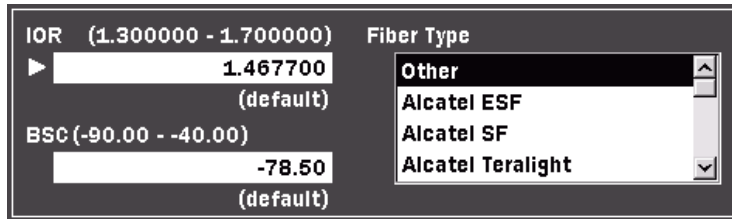

Figure 4-25: IOR/BSC Dialog box
1. Press **IOR/BSC (f2)**. The IOR/BSC dialog box appears (see Figure 4-25).
1. Press **IOR / BSC (f2)**. The IOR/BSC dialog box appears (see Figure 4-25).